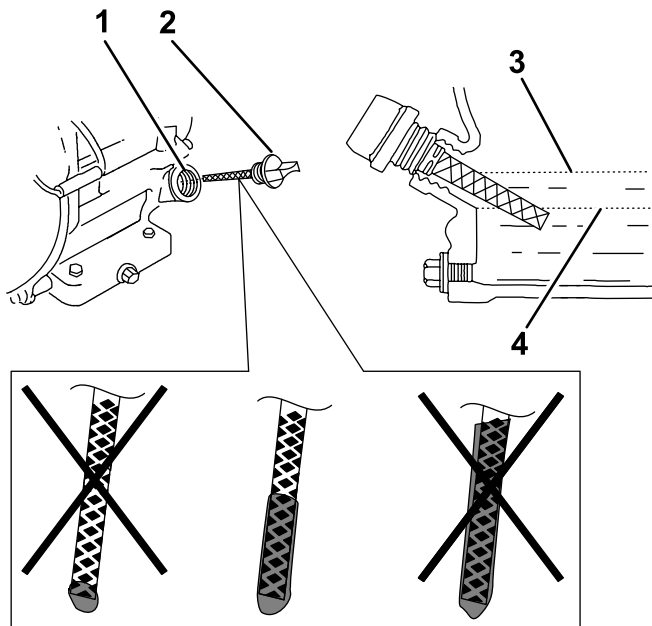

Figure 28
1. Remove the dipstick (Figure 28) and slowly pour oil into the fill hole until the oil reaches the upper-limit mark (bottom edge of the oil-fill hole) on the dipstick.